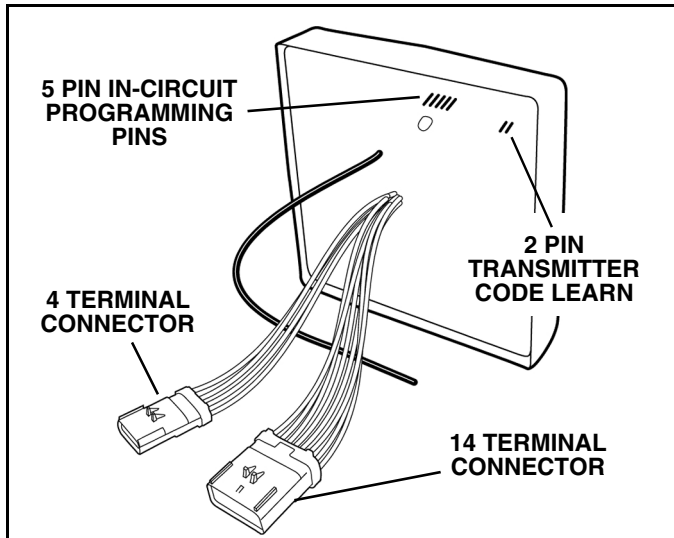
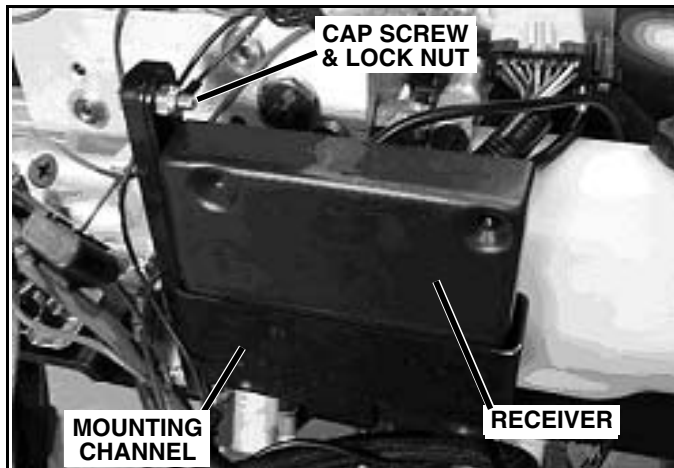

Figure 1-1
Figure 1-2
3. With the 5-pin in-circuit programming pins positioned on the top of the unit (See Figure 1-1), slide the receiver module into the receiver mounting channel with the exposed wires of the receiver box positioned toward the hydraulic reservoir (See Figure 1-2).
3. Place metal object across the 2 pin Transmitter Code Learn contacts on the receiver module. (See Figure 1-1).